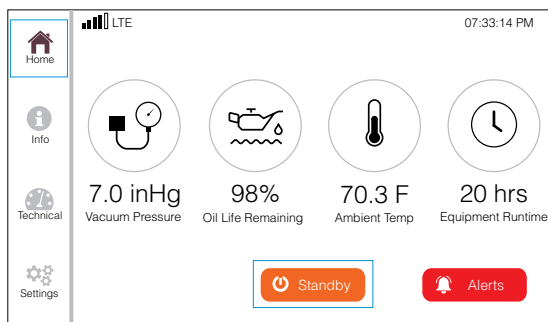

FIGURE 69. PRESS STANDBY
11. On the Home screen, press **STANDBY** to turn the system ON (FIGURE 69).